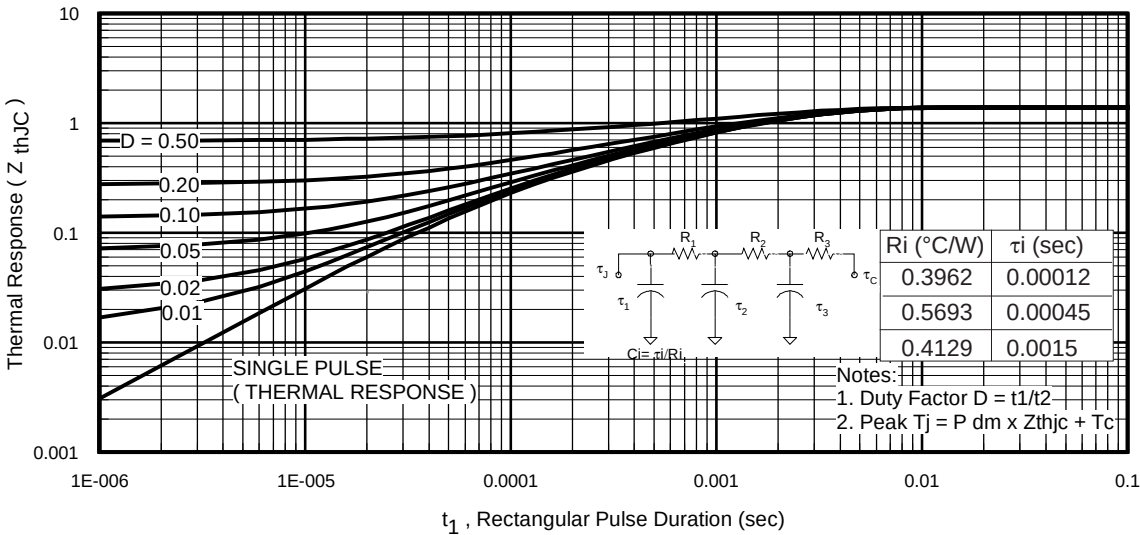

Fig 11. Maximum Effective Transient Thermal Impedance, Junction-to-Case
$Z_{thJC}(D, t_{av})$ = Transient thermal resistance, see figure 11)
- ① Repetitive rating; pulse width limited by max. junction temperature. (See fig. 11).
- ② Limited by T_{Jmax} , starting $T_J = 25^\circ C$, $L = 0.08mH$